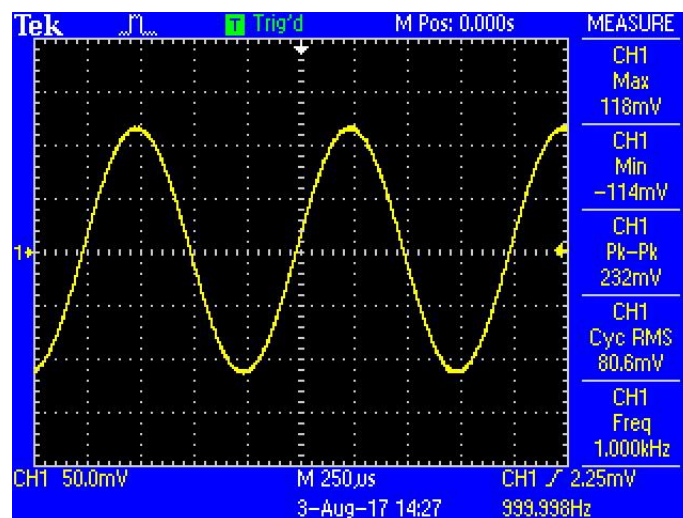

Fig.58 Parameters of the measured signal
3. Turn on the function signal generator and set "Function: Sine", "Amplitude: 80mVrms", "Frequency: 1kHz", "Output Impedance: High Z" as Fig.58.